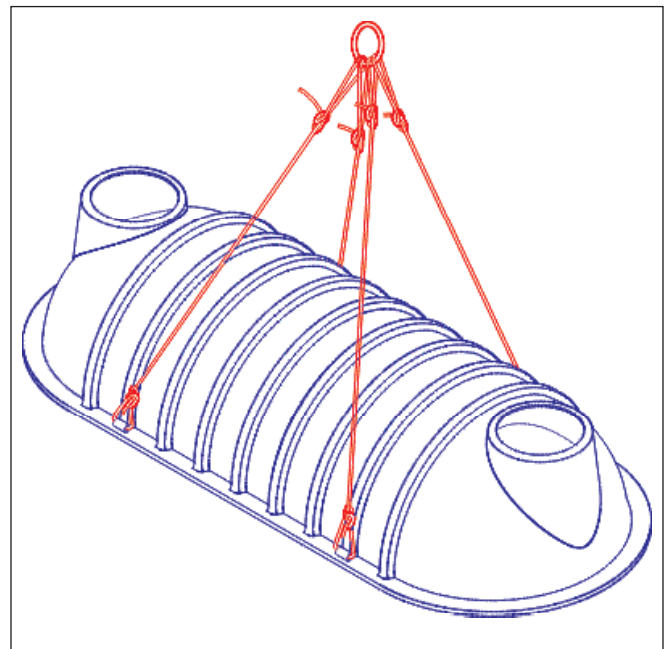

FIGURE 3-1
3.5.2. Use four equal lengths of rope about 10 feet long. (See FIGURE 3-1.)